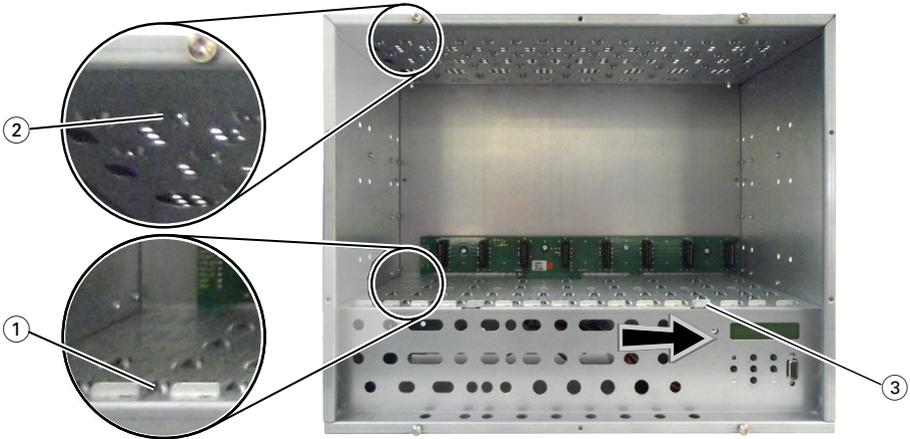

Fig. 18
- Insert a module in grooves ① and ② of an open slot (fig. 18) and gently slide it into the head-end station until it makes contact with the board on the rear wall.
- After installing a module close the locking device ③ in the direction of the arrow (fig. 18).